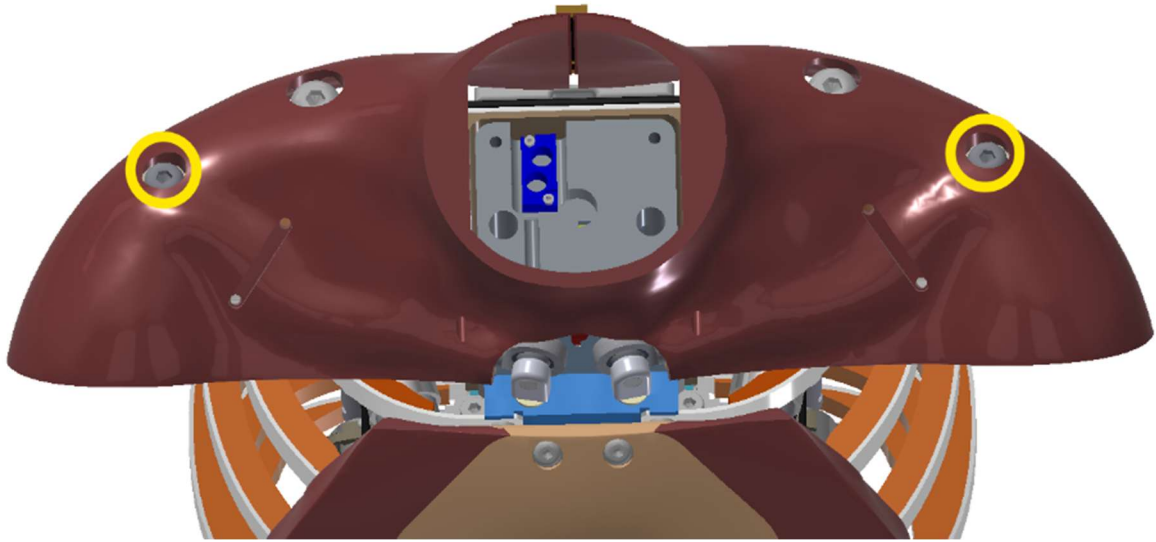

Figure 5-69. Install clavicle assembly (474-3508) to the Upper Scapula (474-3506-1,2) through the shoulder pad (474-3559-A)
- 5.3.34 Place the Shoulder Pad (474-3559-A) on top of the clavicle and shoulder assemblies (474-3508 and 474-3500-1,2). Attach the left and right Clavicle Assembly (474-3508) to the Upper Scapula (474-3506-1,2) with two M8 X 1.25 X 25 LG. BHCS through the Shoulder Pad (Figure 5-69).